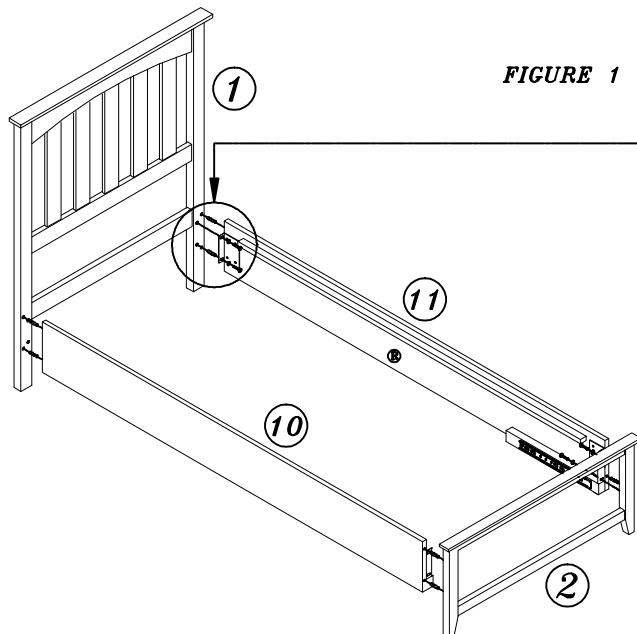

FIGURE 1
- Insert wood dowel (15) into pilot holes on headboard panel (1) place right side rail (11) over wood dowel (15). SEE FIGURE 1
- Secure right side rail (11) with screw (13) and flat metal washer (14). Use Allen wrench (21) to tighten.
- Repeat same steps with left side rail (10) and footboard panel (2).